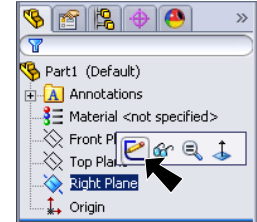

Fig. 1
Step 2. Click **Right Plane**  in the Feature Manager and click **Sketch**  from the Content toolbar, **Fig. 1**.